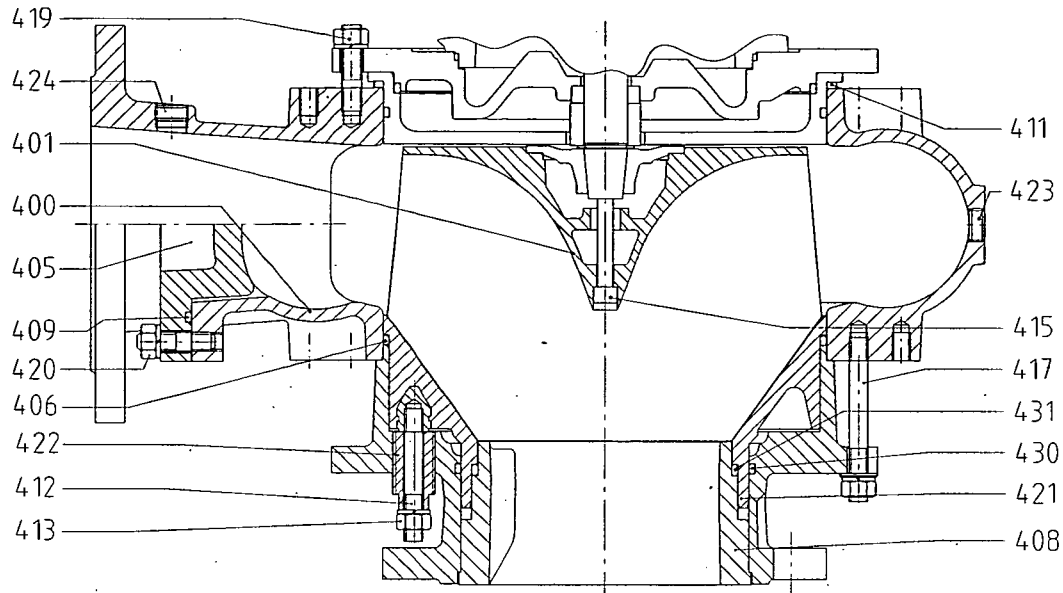

Fig. 7: E05K - L20K regulable
The wear ring (408) should only be removed from suction casing or volute casing if badly damaged. Therefore heat the mating surfaces with a torch to destroy the special adhesive between these two parts. Then press out suction ring with a hydraulic press (Fig. 7).
c) For all other pumps with "regulable" feature (Fig. 7)